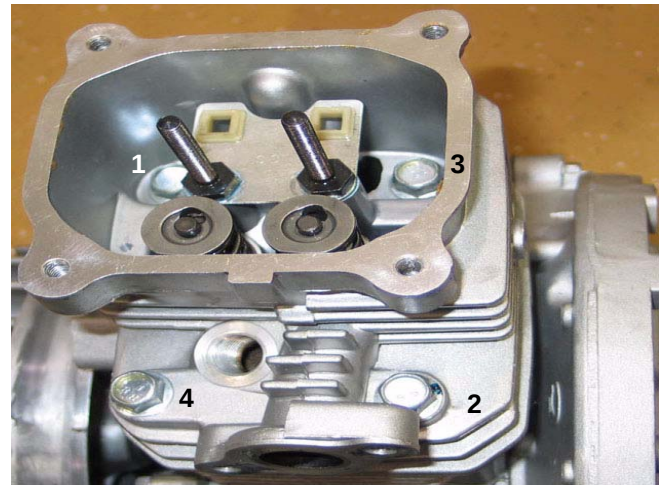

Figure 12.17
12.17. Install the 4 head bolts, and tighten them to a step torque of 212 in-lb. (24 Nm) in an alternating diagonal pattern. See Figure 12.17.